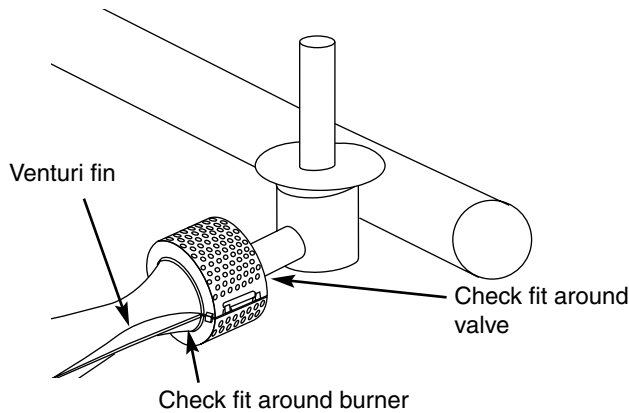

Figure 16
- j) Reinstall the Spider Stopper Guards. Slightly rotate the Spider Stopper Guards so that the seams are in line with the Venturi fins. There should be no gaps in the seams or in the fit around the burners and valves. Figure 16.